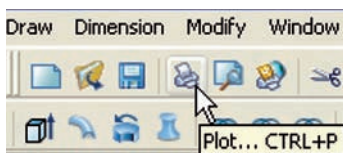

Fig. 20.7 The **Plot** tool icon from the **Standard New** toolbar
9. *Click* the **Plot** tool icon in the **Standard New** toolbar (Fig. 20.7). A **Plot** dialog appears.